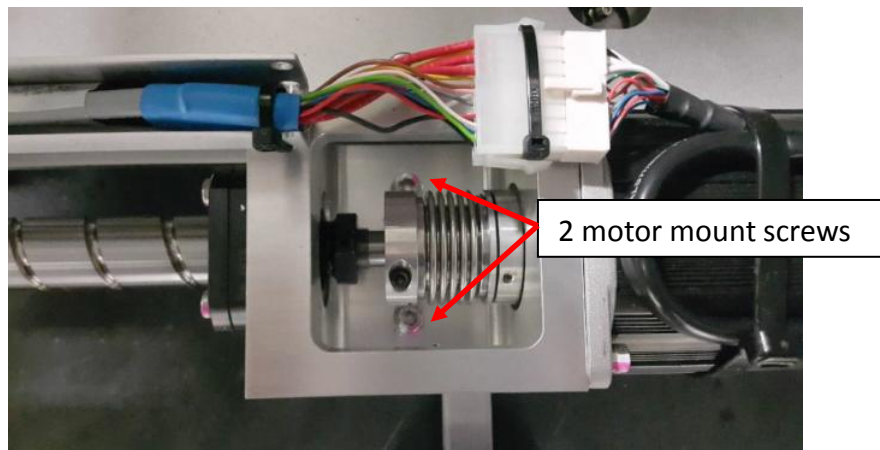

Figure 3 Motor Mount
5. Loosen 2 screws in the Motor Mount as shown in the Figure 3.